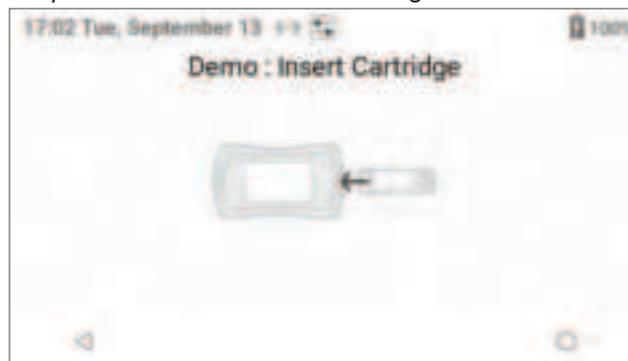

Figure 42: Demo – Insert Test Cartridge
- 1 The demo prompts the Operator to insert a test cartridge. **Do NOT insert a test cartridge** (Figure 42).